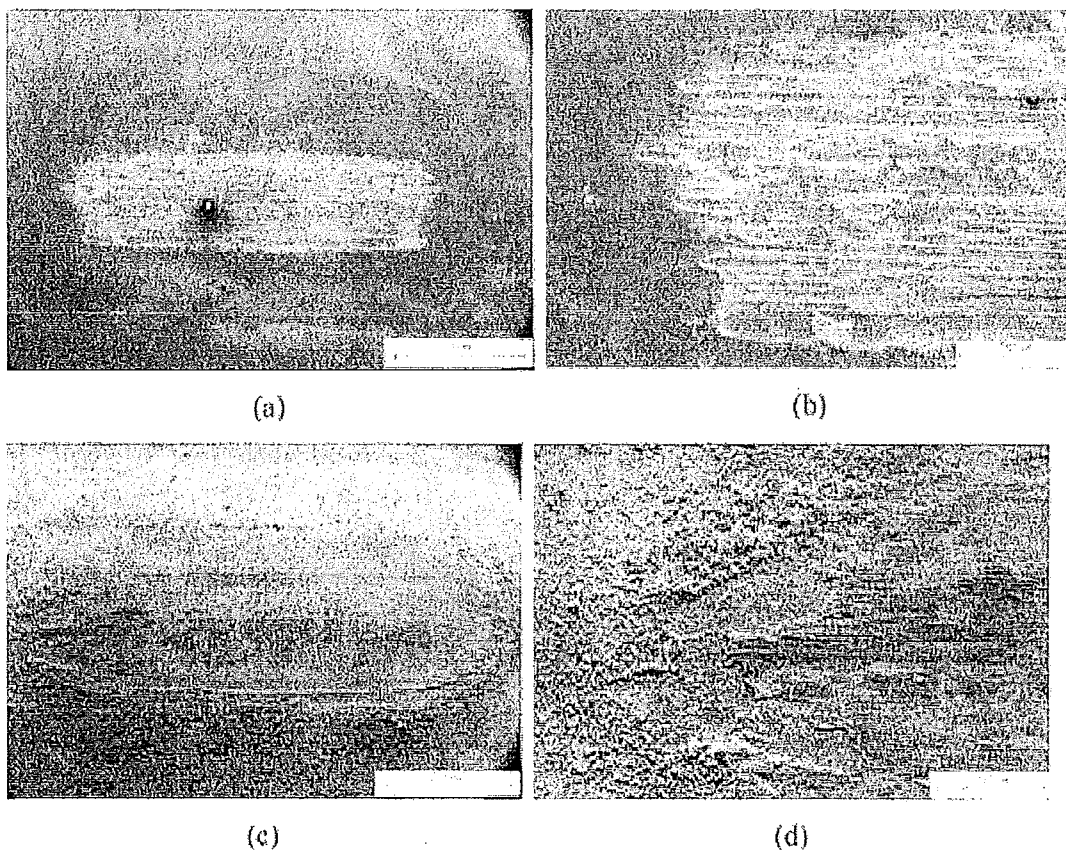

Figure 8 : Scanning electron micrographs of areas in the wear tracks of Zn and zinc-iron coatings, (a) and (b) galvanized; (c) and (d) ZnFe.
- [b] Figure 8 presents the worn surface of samples underwent wear-corrosion test. Figures (a) and (b) are for the hot-dip galvanized coated sample while (c) and (d) are for Zn-Fe coating. The weight loss and surface roughness measured after the wear-corrosion test is given in Table 1. **Elaborate** on the findings.